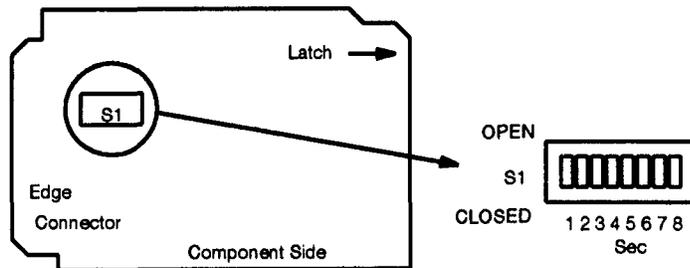

Figure 4. AKM6 DS3U2 Option Settings
45. Refer to **Figure 4** and set the option switches on the replacement **AKM6 DS3U2**.